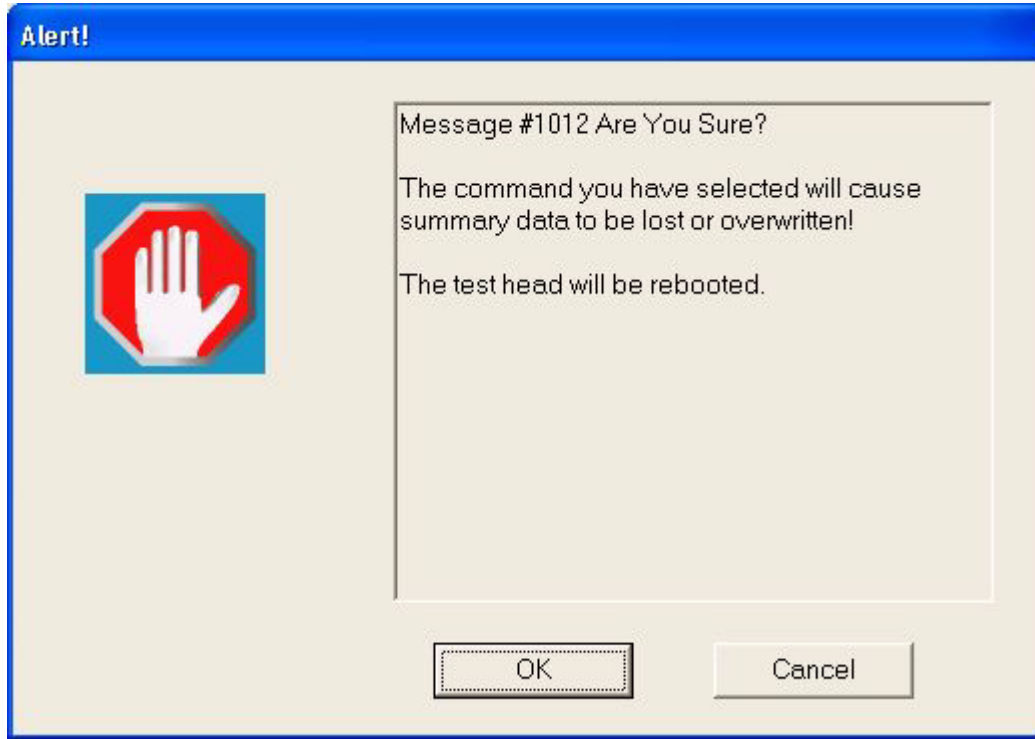

Figure 7-34. Red Hand Alert Are You Sure Dialog Box
- 5 Selecting the **Save** button in the dialog box displays a Red Hand Alert dialog box that warns about the loss of summary data (Figure 7-34). The TEST_PLAN_WARNING plan file configuration switch controls whether this dialog box displays. The default is for it to display.